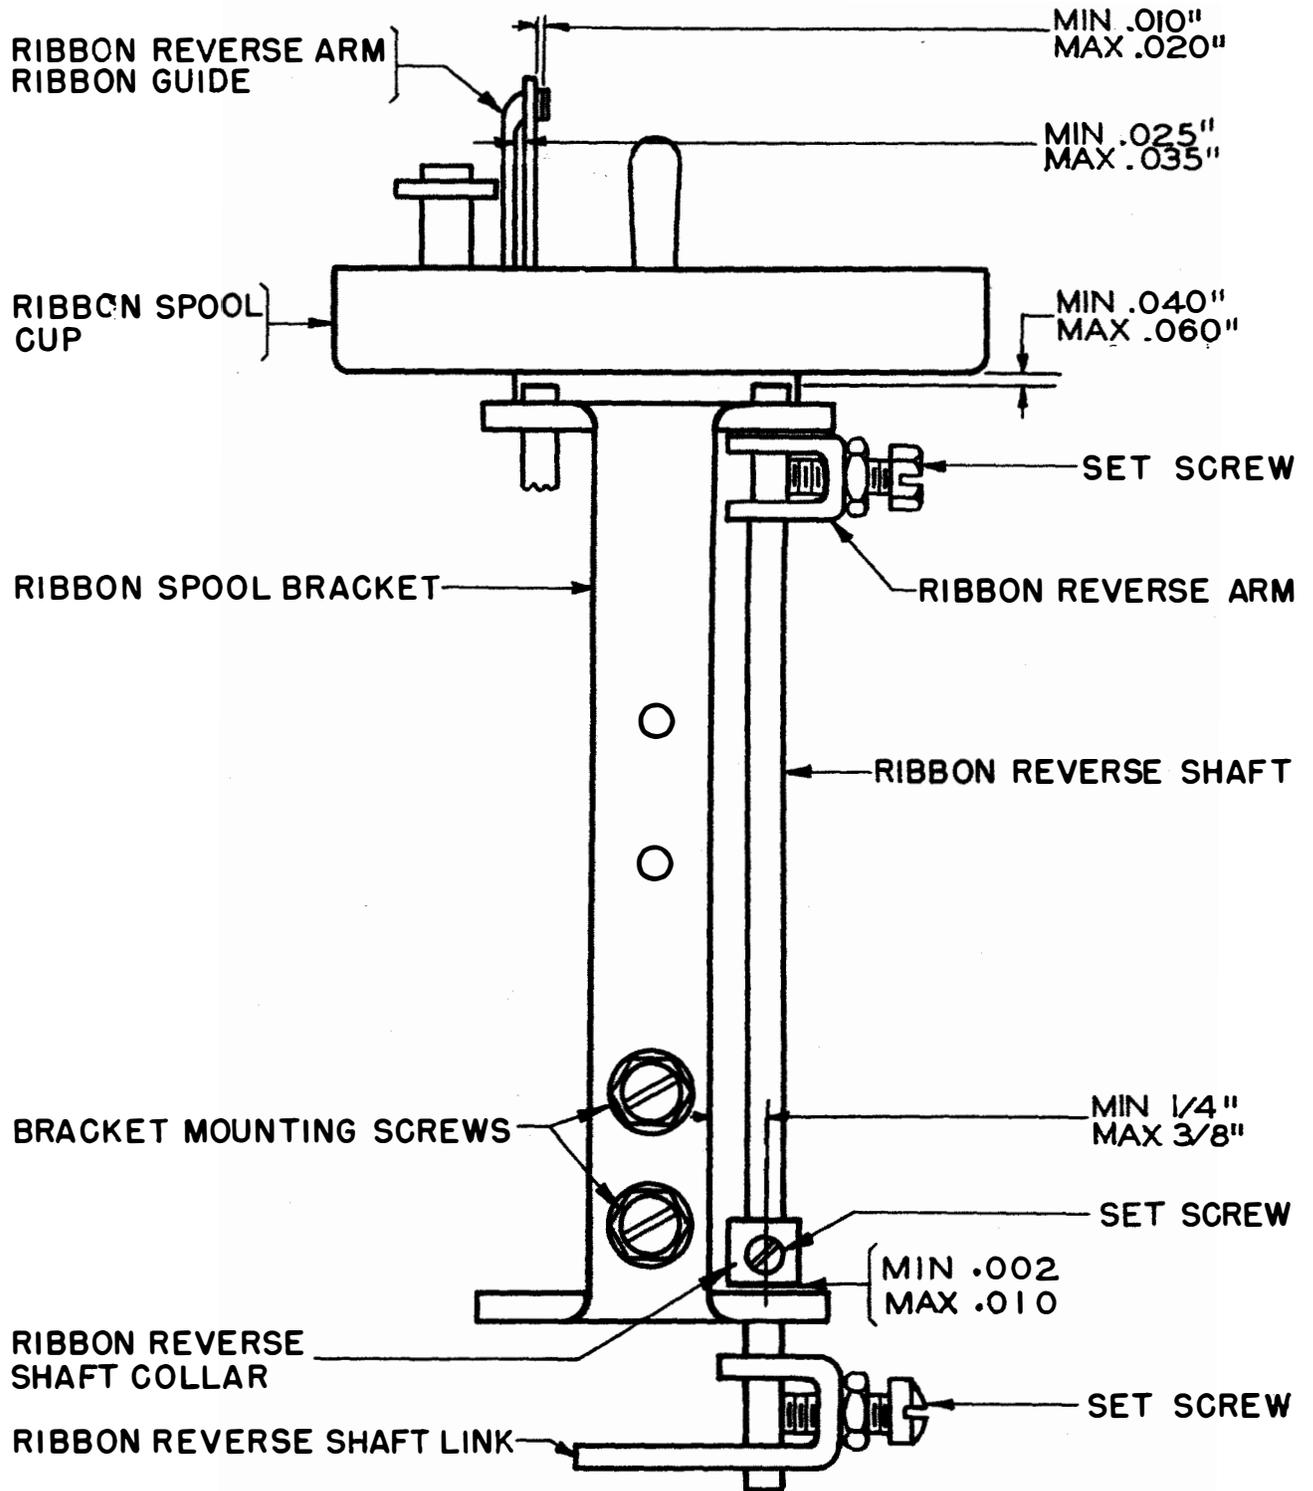

Figure 9
0.035 inch wide and the straight upright piece shall clear the angled arm by minimum 0.010 inch, maximum 0.020 inch. Gauge by eye. See Figure 9.
2.16 Ribbon-reverse Shafts should rotate freely and clear the ribbon-spool cups by minimum 0.040 inch, maximum 0.060 inch when the associated ribbon-reverse arm is held against the ribbon-spool bracket. See Figure 9.
To Adjust typing units not equipped with ribbon-yield mechanism, loosen the setscrew of the left ribbon-reverse arm, and if necessary, the setscrews of the collars and the link of the left ribbon-reverse shaft. Position the shaft while holding the ribbon-reverse arm up against the ribbon-spool bracket and then tighten the ribbon-reverse-arm setscrew. Adjust the right ribbon-reverse shaft in the same manner. See Figure 9.
2.17 Ribbon-reverse Shafts: (Applies only to units not equipped with yield mechanism): The ribbon-reverse shafts should have some endplay, minimum 0.002 inch, maximum 0.010 inch, when the ribbon-reverse arm is held against the ribbon-spool bracket. See Figure 9.